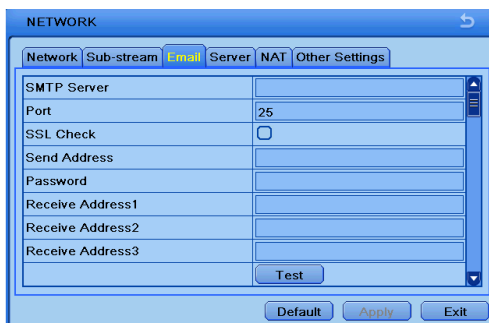

Fig 4-26 Network Configuration-Email
- ① Go to Main Menu→Setup→ Network→Email interface. Refer to Fig 4-26.
- ② Set SMTP Server and port.
- ③ Set sender's address and password.
- ④ Set receiver's email address and click "Test" button to test the validity of the mailbox.